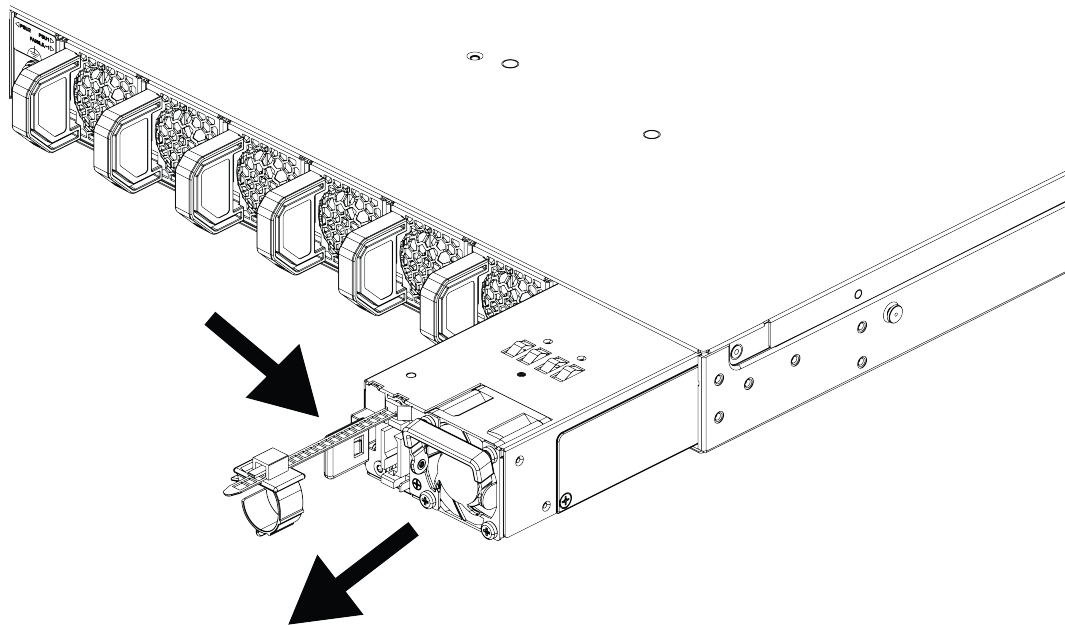

Figure 28: Remove an 800 W DC Power Supply
3. Push the latching tab toward the power supply handle and pull outward on the handle to disengage the power supply internal connectors, as shown in Figure 28.
- Carefully slide the power supply the rest of the way out of the switch, as shown in Figure 28.